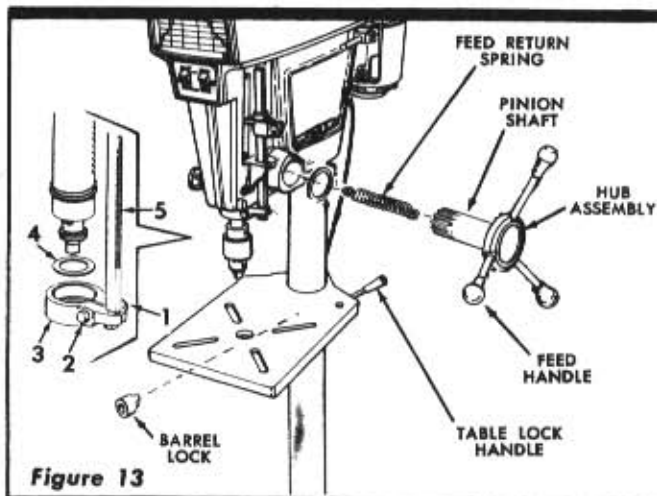

Figure 13
1. Clamp the quill with the quill lock knob; loosen the 1/4-20 feed stop collar clamping nut (1, figure 13), reposition feed stop collar (3) upward as far as it will go, then tighten the feed stop collar clamping nut (1).
2. Make sure the feed stop rod (5) is positioned properly in the guide slot of the drill press head. When the feed stop collar is removed in order to install the mortising attachment (Catalog No. 9-2460), use the washer (4, figure 13) in the mortising attachment clamping collar and eliminate spindle play as described in preceding paragraphs.
To change the locked position of table lock handle or drill press head lock handle, unscrew the handle from barrel lock and rotate barrel lock 180°. Re-insert the lock and tighten lock handle (See figure 13.)
If the automatic feed return fails to return the quill to the top of the stroke, or if the return action becomes sluggish, the feed return may be adjusted as follows: (See figure 13.)
4. In order to maintain smooth operation of pinion, pull pinion shaft (Figure 13) out and lubricate occasionally with cup grease.